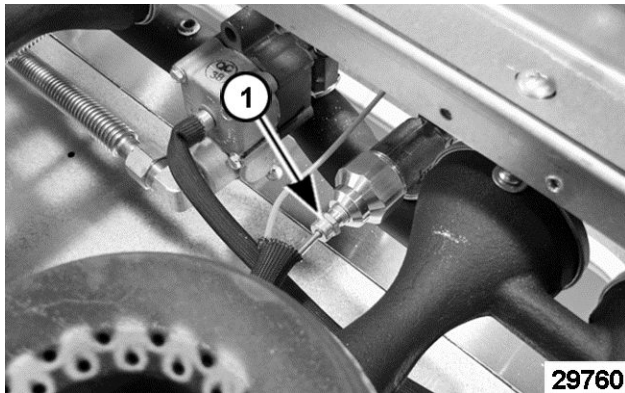

Fig. 70
7. Disconnect thermocouple (1, Fig. 70) from safety valve.